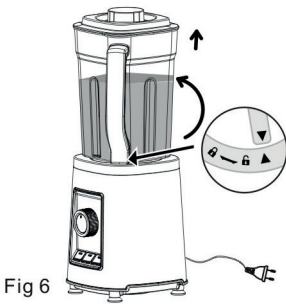

Fig 6
- Switch off the blender once the mixing process is complete and turn the function selector (14) to OFF. Unplug the appliance. Fig 6.
- Turn the function selector (14) to ON and select the required program or optional variable setting. The mixing process starts. Fig 6.